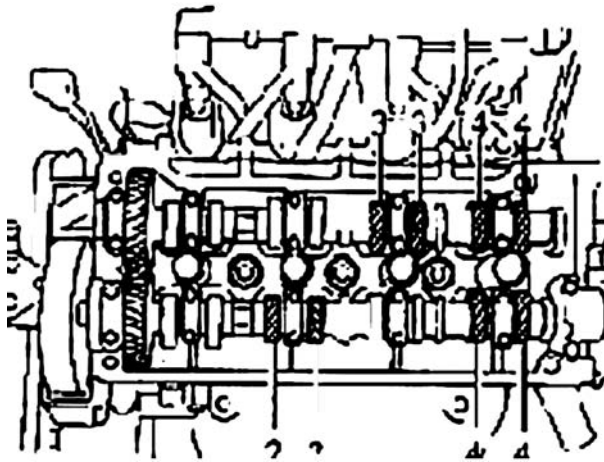

Figure 11
- (b) Only check the valve as shown in the figure. Valve clearance measurement. See (Figure 11).